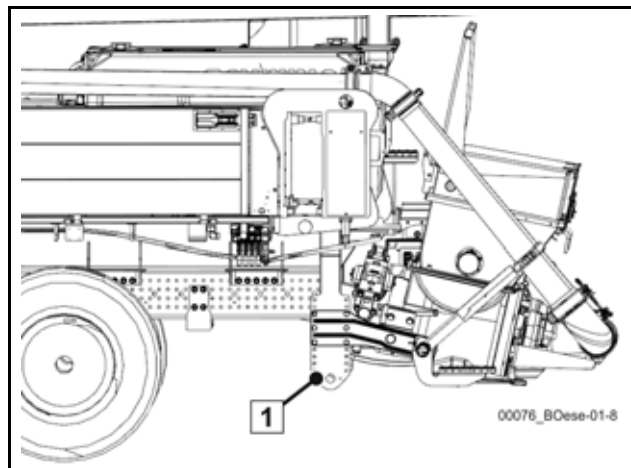

Fig. 200 (1) Towing lugs
2. SCHWING towing lugs on tail end of vehicle (1) (**Fig. 200**)